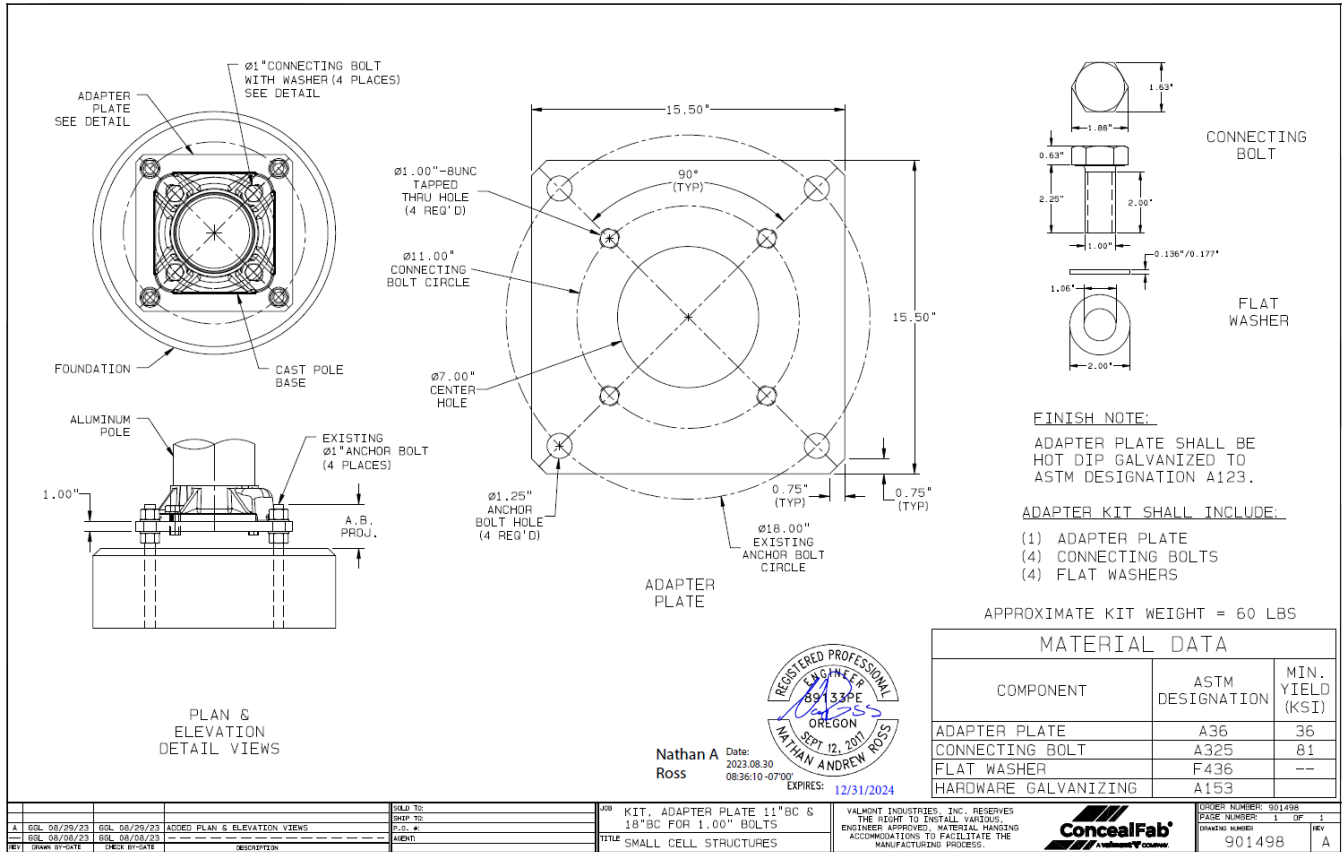

Figure 10. 18" to 11" Adaptor Plate Application Details
- An optional 18" to 11" Bolt-Circle Adaptor Plate may be installed. Designed for situations where a small-cell wireless pole is damaged, and there is an existing base with an 18" bolt-circle. This adaptor plate facilitates the temporary installation of a standard 11" bolt-circle PGE streetlight pole, enabling continued streetlight operation while the cell carrier arranges for a replacement pole. See Figure 8, Figure 9, and Figure 10 for images, engineered drawings, and application guidelines.